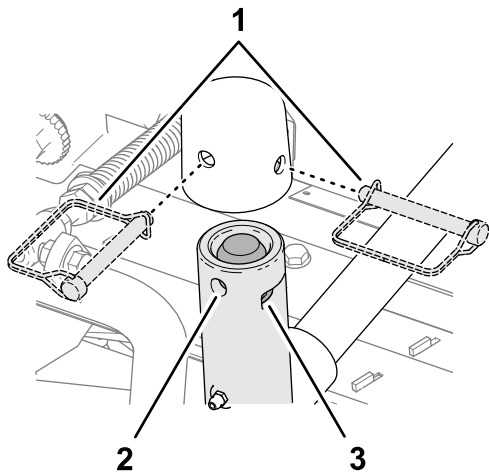

**Figure 28**
2. Assemble the lift-arm yoke onto the carrier frame shaft (Figure 28).